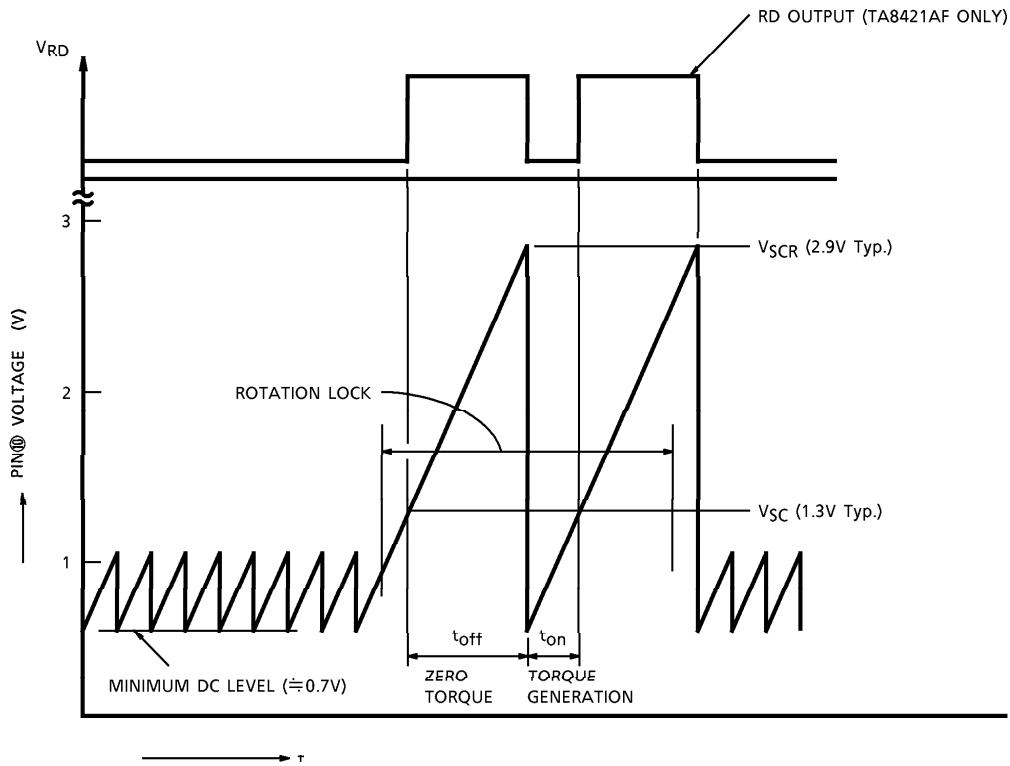

Fig.1 Automatic Self Rotation Recovery Circuit Operation
Fig.1 shows pin⑩ voltage and the operation of this functions are as follows.
RD output becomes low (Actually V_{SAT}(RD) level of 0.3V Typ.) when the Motor in rotation state and generates t_{off} pulse when the rotation is locked (Refer to Fig.1).